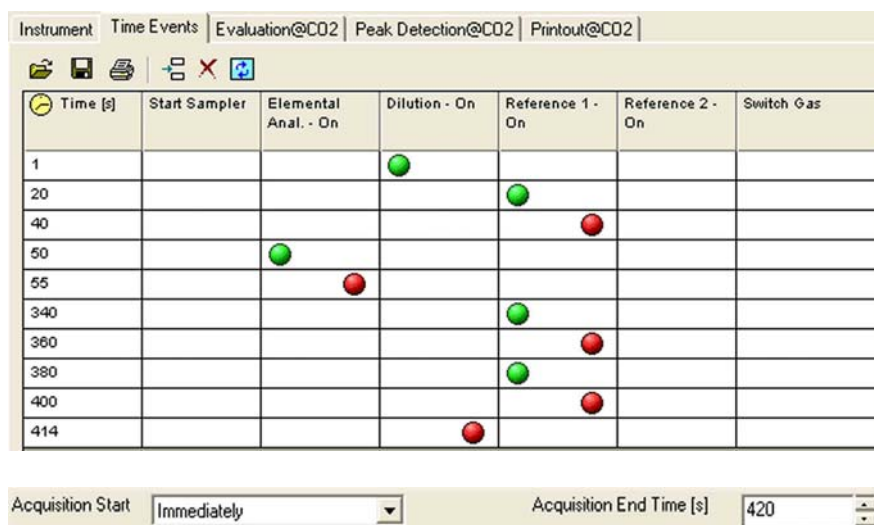
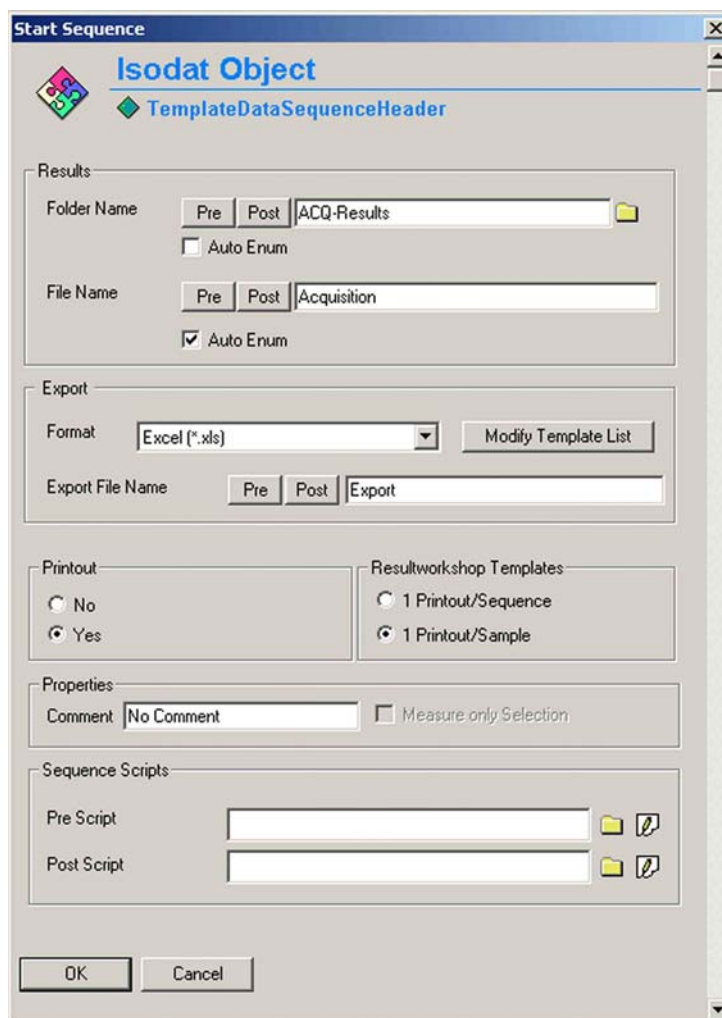
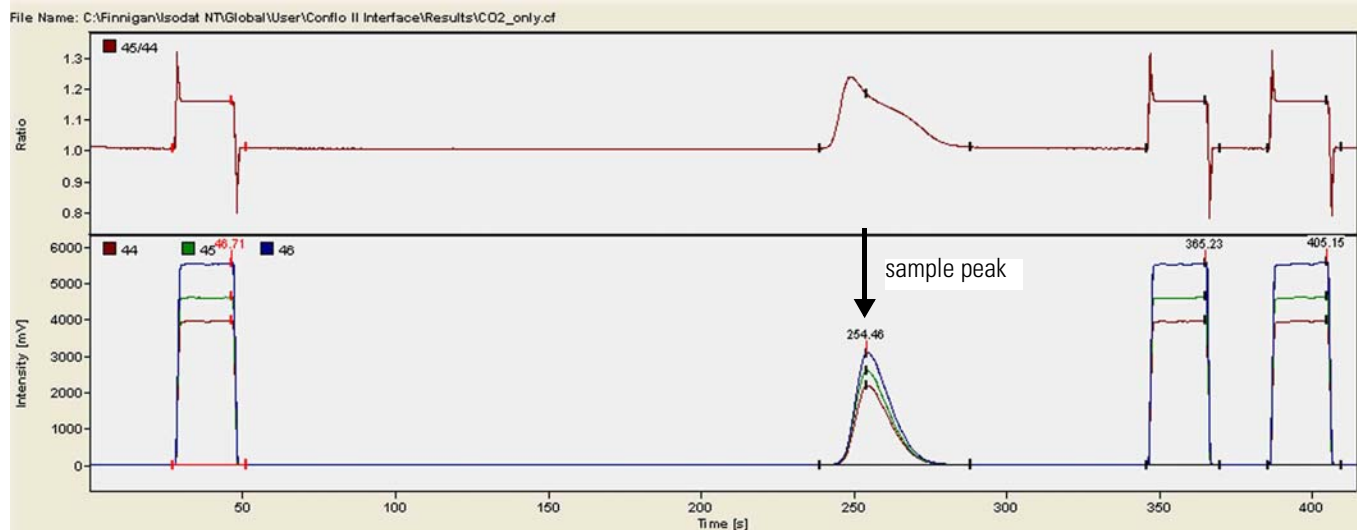

Figure 5-17. Starting a carbon measurement - Time Events tab
Figure 5-24. Starting carbon measurement - defining export and printout parameters
Figure 5-25. Carbon measurement - chromatogram
Adapt the reference gas port to the respective column of the time events list: for example, if you choose Reference 1, the on-off entries must occur in the Reference 1-On column of the time events list. See Figure 5-17.
7. Define a folder to save your result files as well as export and printout parameters. See Figure 5-24.
This section summarizes the events that happen during data acquisition. See Figure 5-17, Figure 5-25 and Figure 5-26.
After finishing data acquisition a data output sheet will be created as defined by the selected Result Workshop template (*.irw). The results are also exported to a spreadsheet file, if the checkbox was marked in Figure 5-24. Figure 5-25 shows the chromatogram and Figure 5-26 the related result grid.